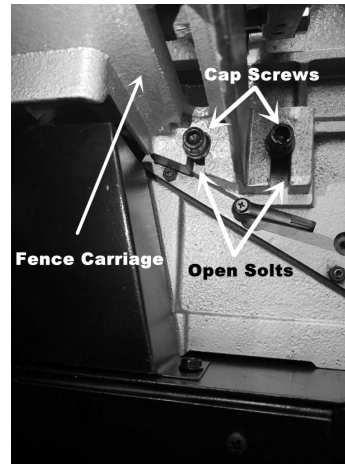

Figure 5
3. Line up two open slots on the fence carriage with the two cap screws. (Fig. 5)